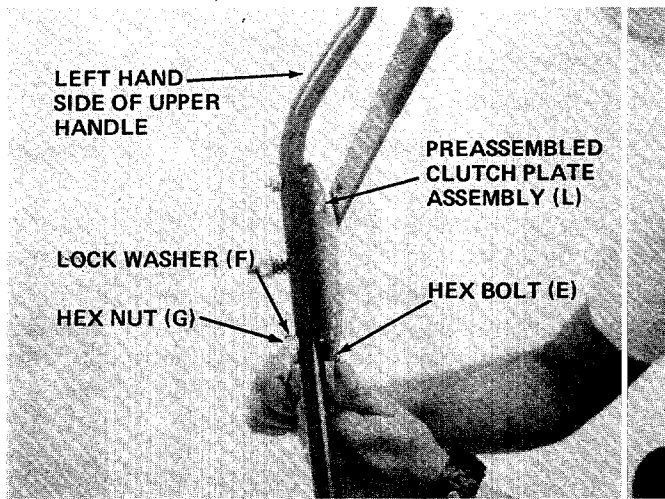

FIGURE 6.
- Place preassembled clutch plate assembly (L) on the left hand side of upper handle. Secure in place with hex bolts (E), lock washers (F) and hex nuts (G). See figure 6.